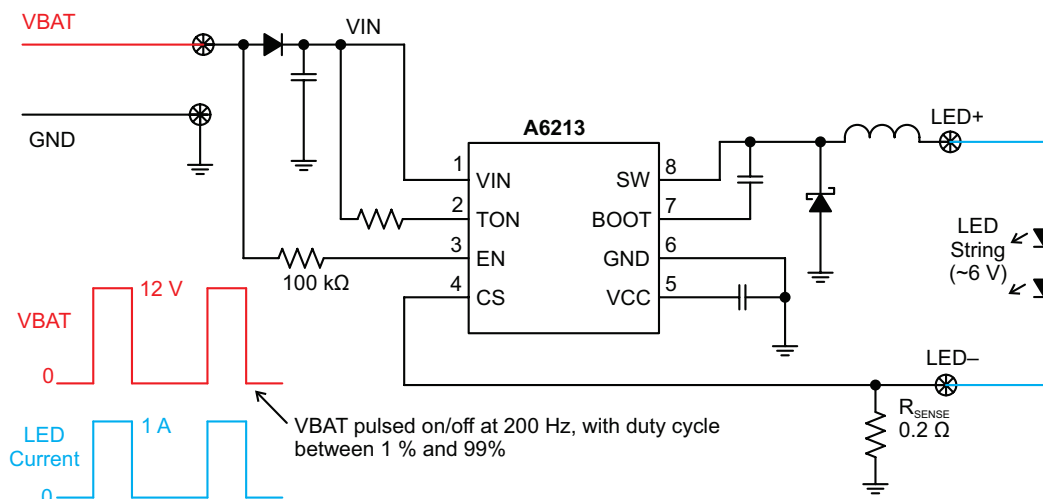

Figure 17: PWM Dimming of LED Current by Using Pulsed Power Supply Line
- Figure 17 shows PWM dimming of LED current by pulsing the power supply line